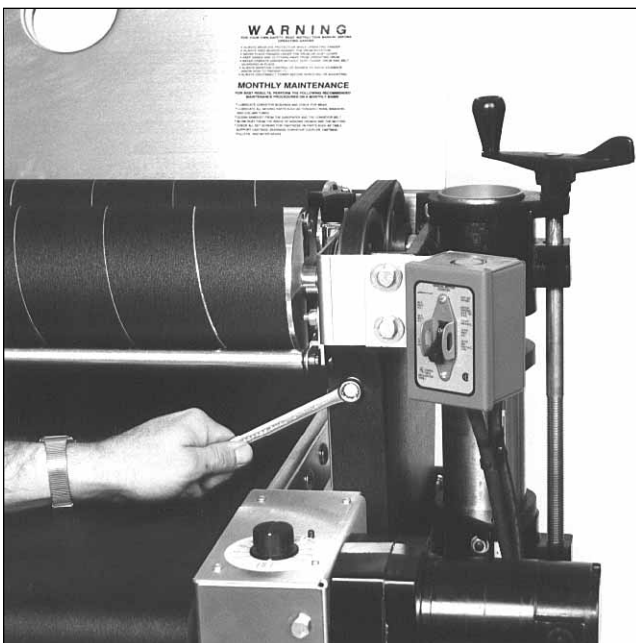
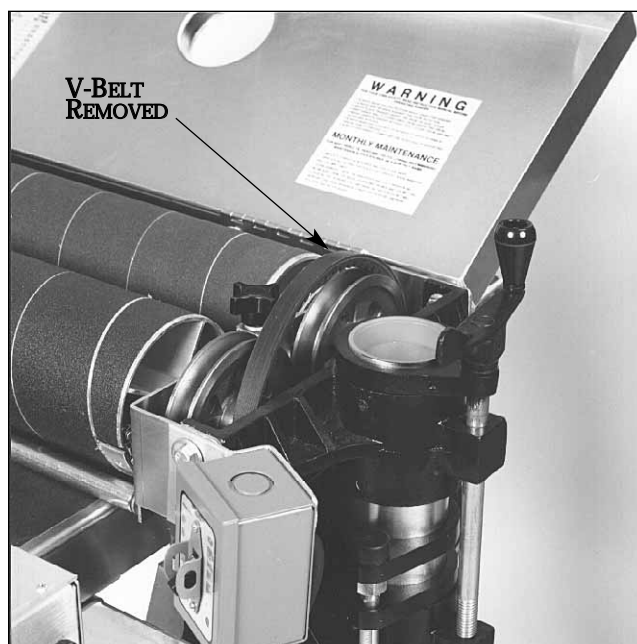

Fig. 29. Removing outer belt guard.
Fig. 38. Removing main motor V-belt drive.
1. Disengage the outer belt guard cover by removing the four 10-32 screws and the two 5/16" x 1/2" bolts holding it in place. (Fig. 29). Take the V-belt off driven pulleys.
1. Remove the lower outer belt cover by removing the four 10-32 screws holding it in place (see Fig. 29 and 37). Remove the two 5/16" x 1/2" hex head bolts holding it in place; pull the middle cover to the left. Take the V-belt off the pulley (Fig. 38).